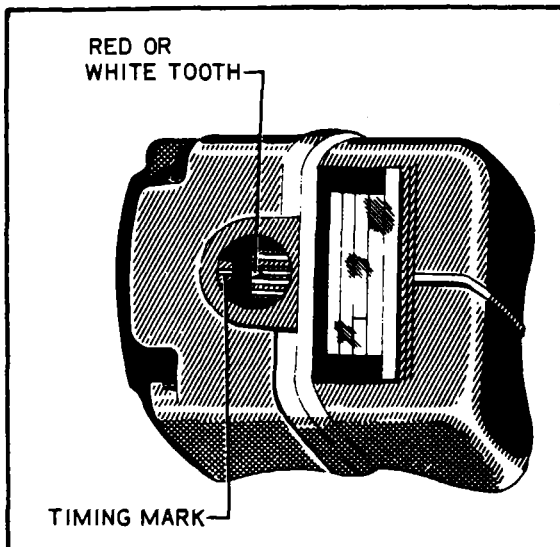

Figure 8-15. Magneto Timing Marks
- c. Remove the inspection plug on the left magneto and turn the drive coupling in direction of normal rotation until the first painted chamfered tooth is aligned in the center of the inspection hole. (Refer to Figure 8-15.) Without allowing the gear to turn from this position, assemble gasket and magneto to the engine. Secure in place with washers and nuts; tighten only finger tight.